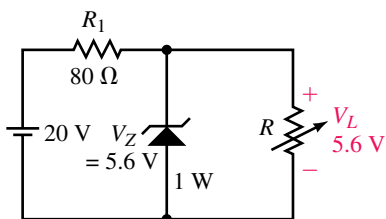

FIGURE 7-62
19. Given the circuit of Figure 7-62, determine the range of R (maximum and minimum values) which will ensure that the output voltage $V_L = 5.6\text{ V}$ while the maximum power rating of the zener diode is not exceeded.